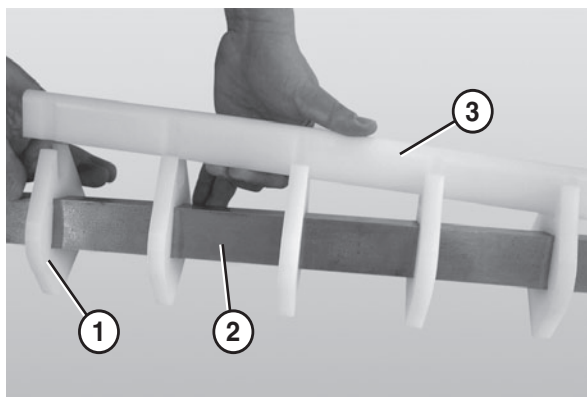

Figure 69
1. Slide the nose bar pucks (**Figure 69, item 1**) onto the nose bar drive post (**Figure 69, item 2**).
2. Attach the nose bar wear strip (**Figure 69, item 3**).